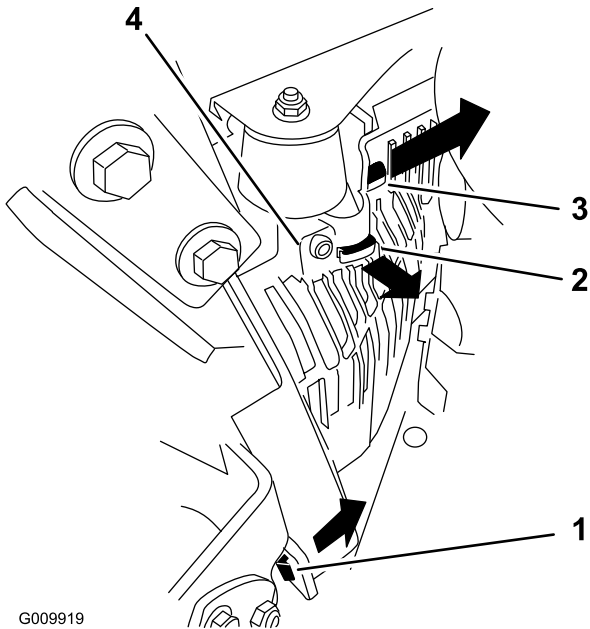

Figure 46
3. Remove the lefthand hydraulic unit shroud in the order listed with Figure 46. This gives you access to the front spark plug.
5. Install the lefthand hydraulic unit shroud (Figure 46).